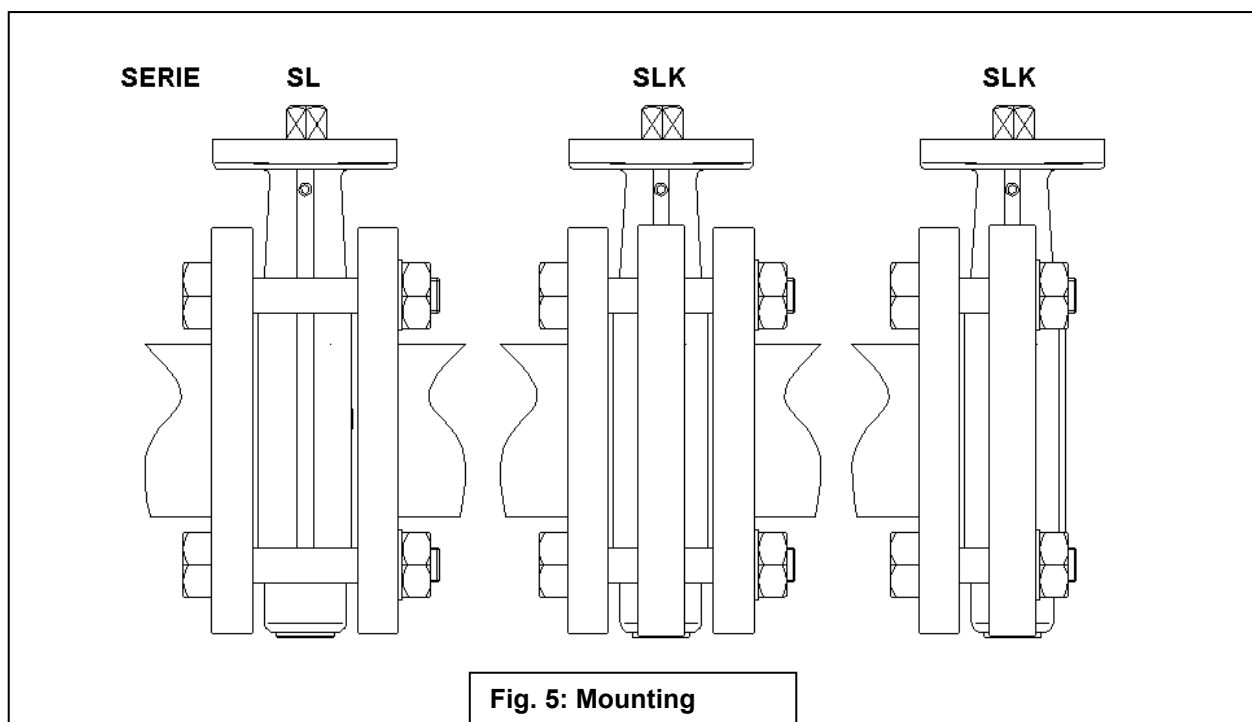

Fig. 5: Mounting
5. MOUNTING THE VALVE INTO THE PIPELINE (Fig. 5)
5. Pressure test the valve (if possible), fasten the actuator and assembly into the pipe line.(Fig.5).